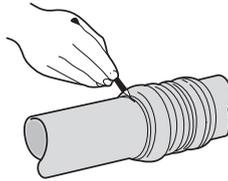

Fig.4b Pushing in pipe/mark pipe
Step 2 – Push pipe fully into socket. Mark pipe along edge of socket (Fig.4b)